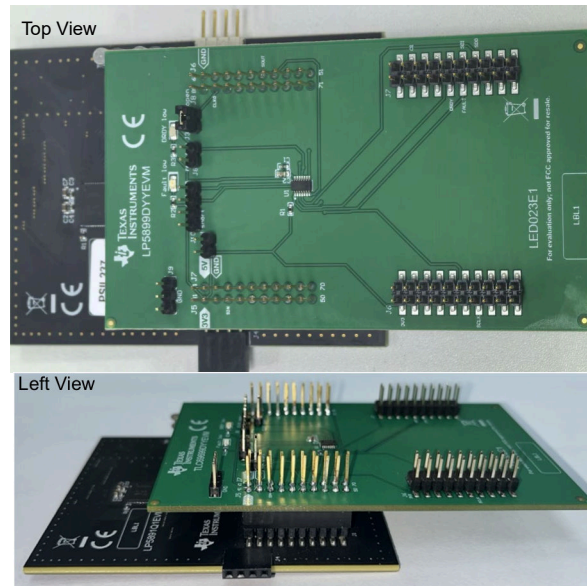

Figure 2-3. LP5899EVM and LP5891EVM Connection
3. Connect the BoosterPack™ connectors (J5, J6, J7, J8) on the LP5899EVM with the BoosterPack connectors (J1, J2) on the LP5891Q1EVM as shown in the Figure 2-3.